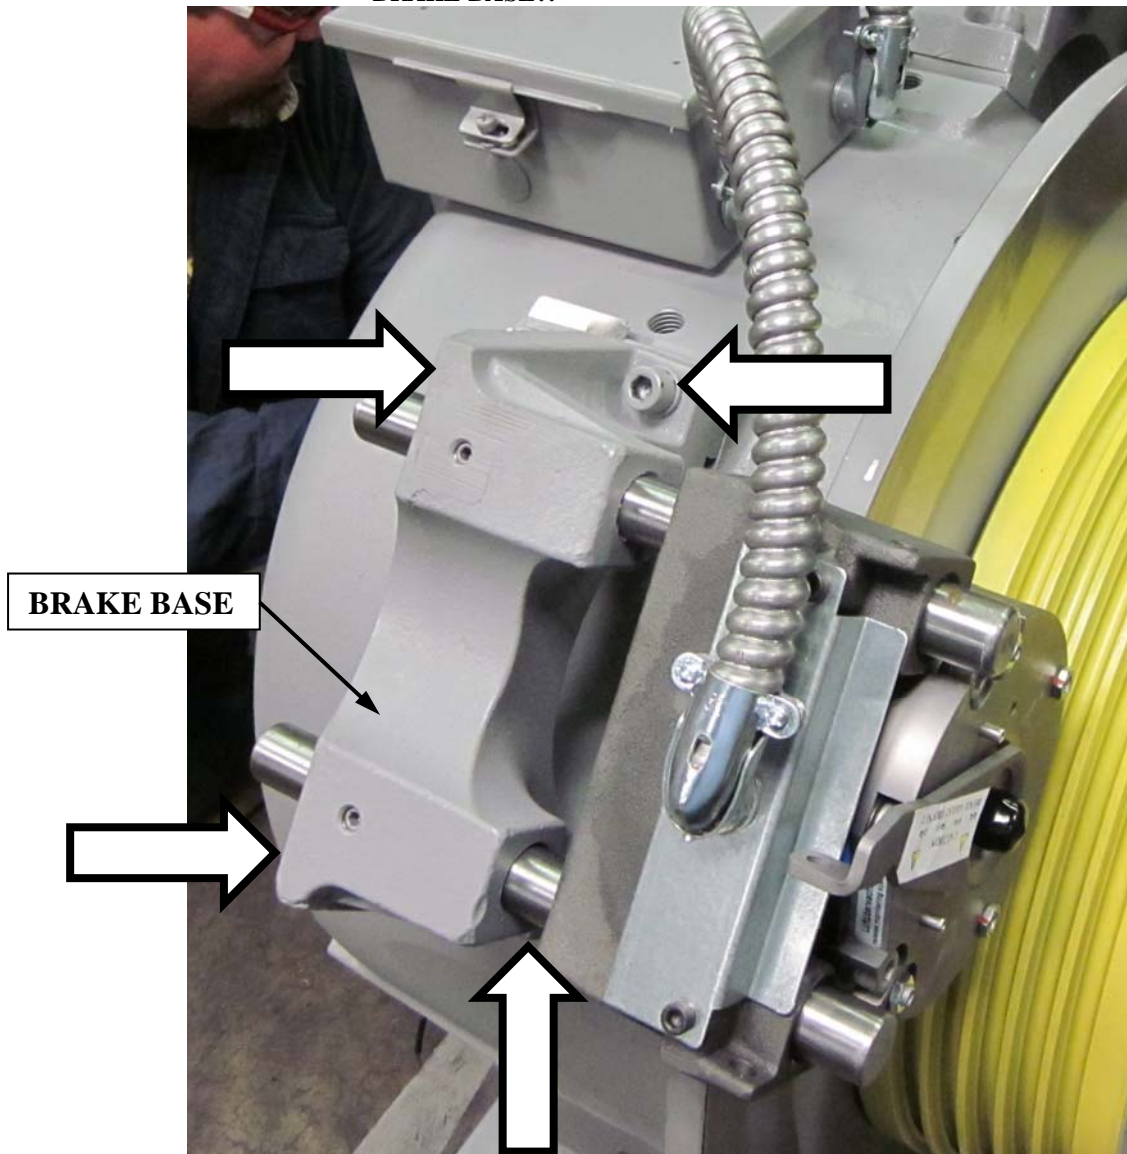

Figure 18
- With the Brake clamping the rotor (de-energized) Use a 3/8" Hex Wrench to loosen (4 per brake) socket head screws "ARROWS". Shown in Figure 18